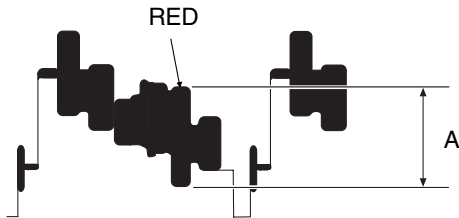

Fig. 6-2
6.6 Chroma Gain Adjustment (Figs. 6-2, 6-3, 6-4)
- 3) *When using an oscilloscope (Fig. 6-2):*